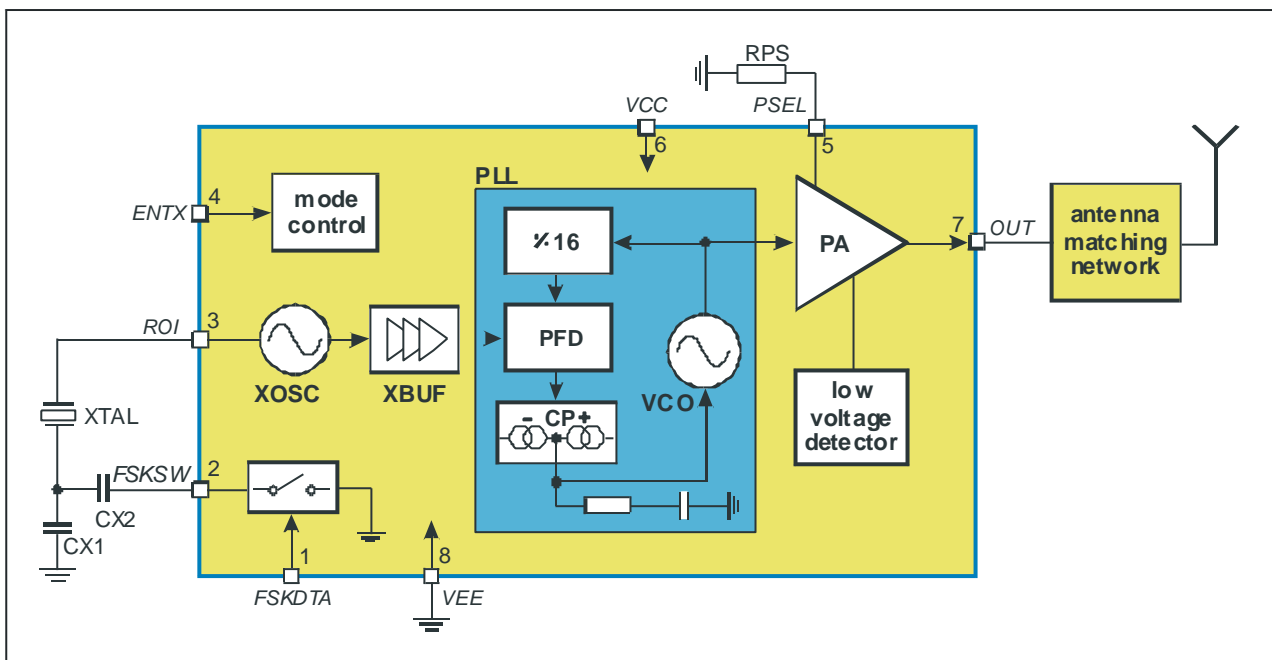

Fig. 1: Block diagram with external components
As depicted in Fig.1, the MLX72013 transmitter consists of a fully integrated voltage-controlled oscillator (VCO), a divide-by-16 divider (div16), a phase-frequency detector (PFD) and a charge pump (CP). An internal loop filter determines the dynamic behavior of the PLL and suppresses reference spurious signals. A Colpitts crystal oscillator (XOSC) is used as the reference oscillator of a phase-locked loop (PLL) synthesizer. The VCO's output signal feeds the power amplifier (PA). The RF signal power P_{out} can be adjusted in four steps from $P_{out} = -14$ dBm to +11 dBm, either by changing the value of resistor RPS or by varying the voltage V_{PS} at pin PSEL. The open-collector output (OUT) can be used either to directly drive a loop antenna or to be matched to a 50Ohm load. Bandgap biasing ensures stable operation of the IC at a power supply range of 1.95 V to 5.5 V.